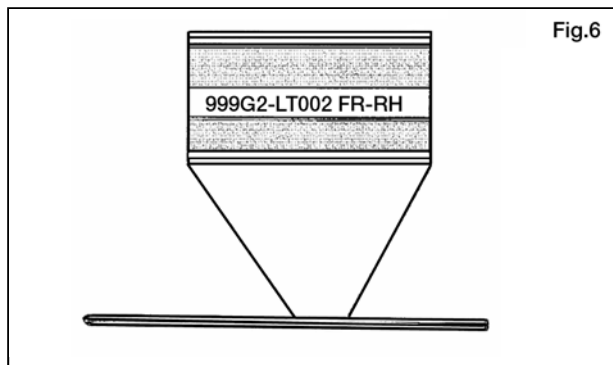

Fig.6
- a) Identify the front, right body side molding. (Fig. 6)